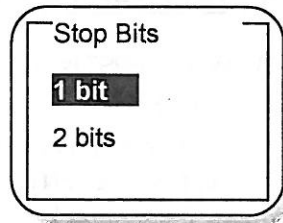

Fig. 3-9
- 1) When "STOP" is selected, the Stop Bits screen (Fig. 3.9) is displayed.